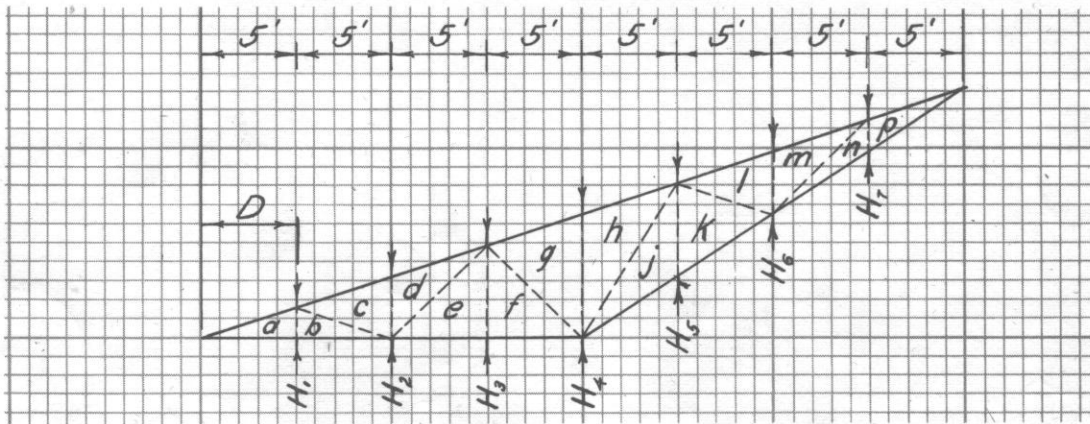

Fig. 1 — Scale 1" = 10' — Area = 132 sq. ft.
1. One method for determining end areas is to divide the section into triangles. The areas of the pairs of triangles having a common base (H) are computed and then added together to obtain the total area. Fig. 1 illustrates a section which has been divided at even intervals of distance (D) with heights  $H_1, H_2, H_3, H_4, H_5, H_6,$  and  $H_7$ . Triangles a, b, c, d, e, f, and so forth, are formed by the addition of the dotted lines.